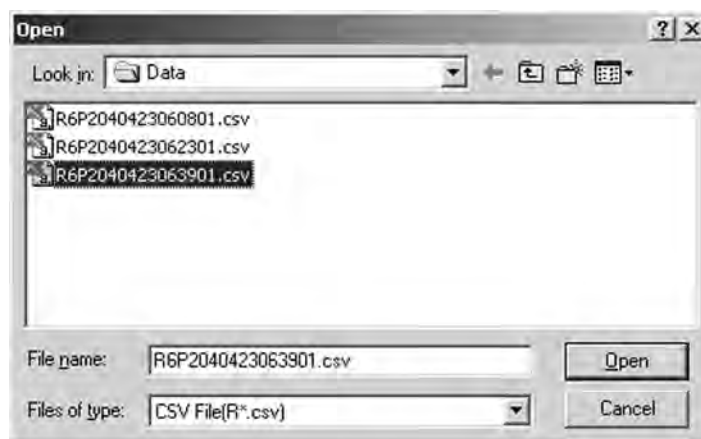

Fig. 125
2. Select the file containing the saved graph data that you want to view, and then click the **Open** button. (Fig. 125)